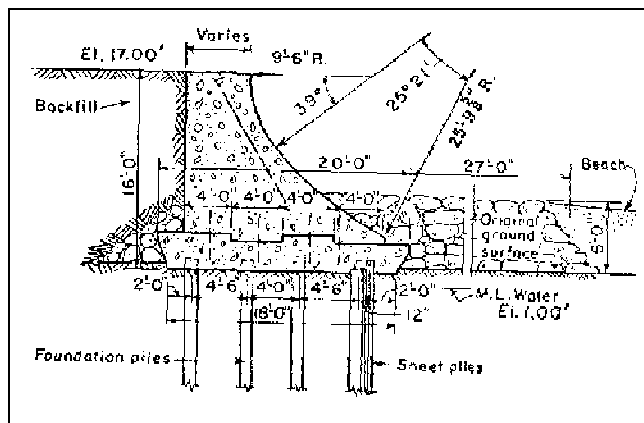

Figure C-2. Curved-face seawall cross section
*c. Cross section of curved-face seawall.* A cross section of the Galveston seawall, fairly typical of this type of construction, is shown in Figure C-2.